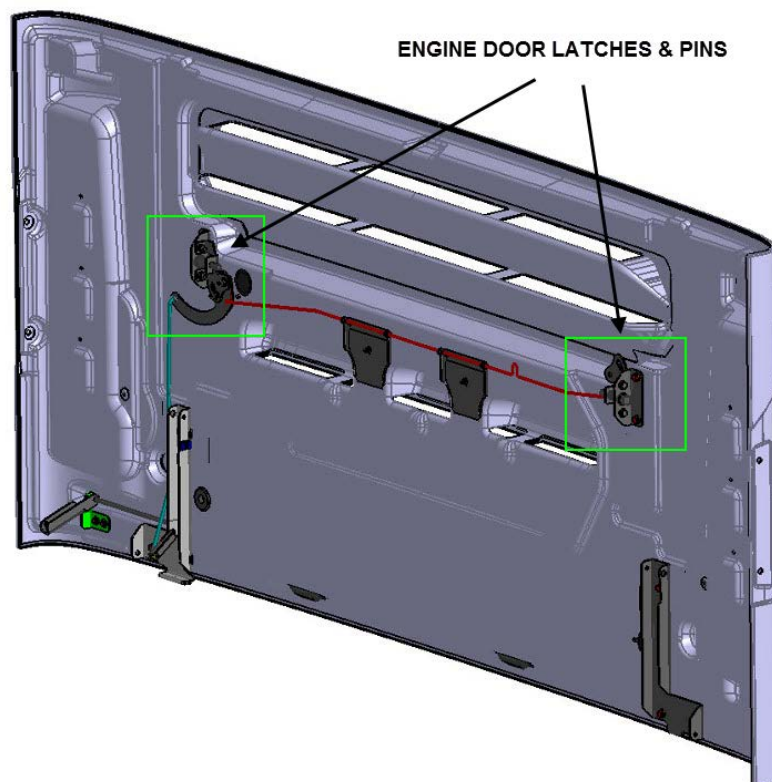

FIG.2 ENGINE DOOR LATCHES POSITION
2. Locate the engine door latch pins on both sides of the door (Fig.2 & 3).